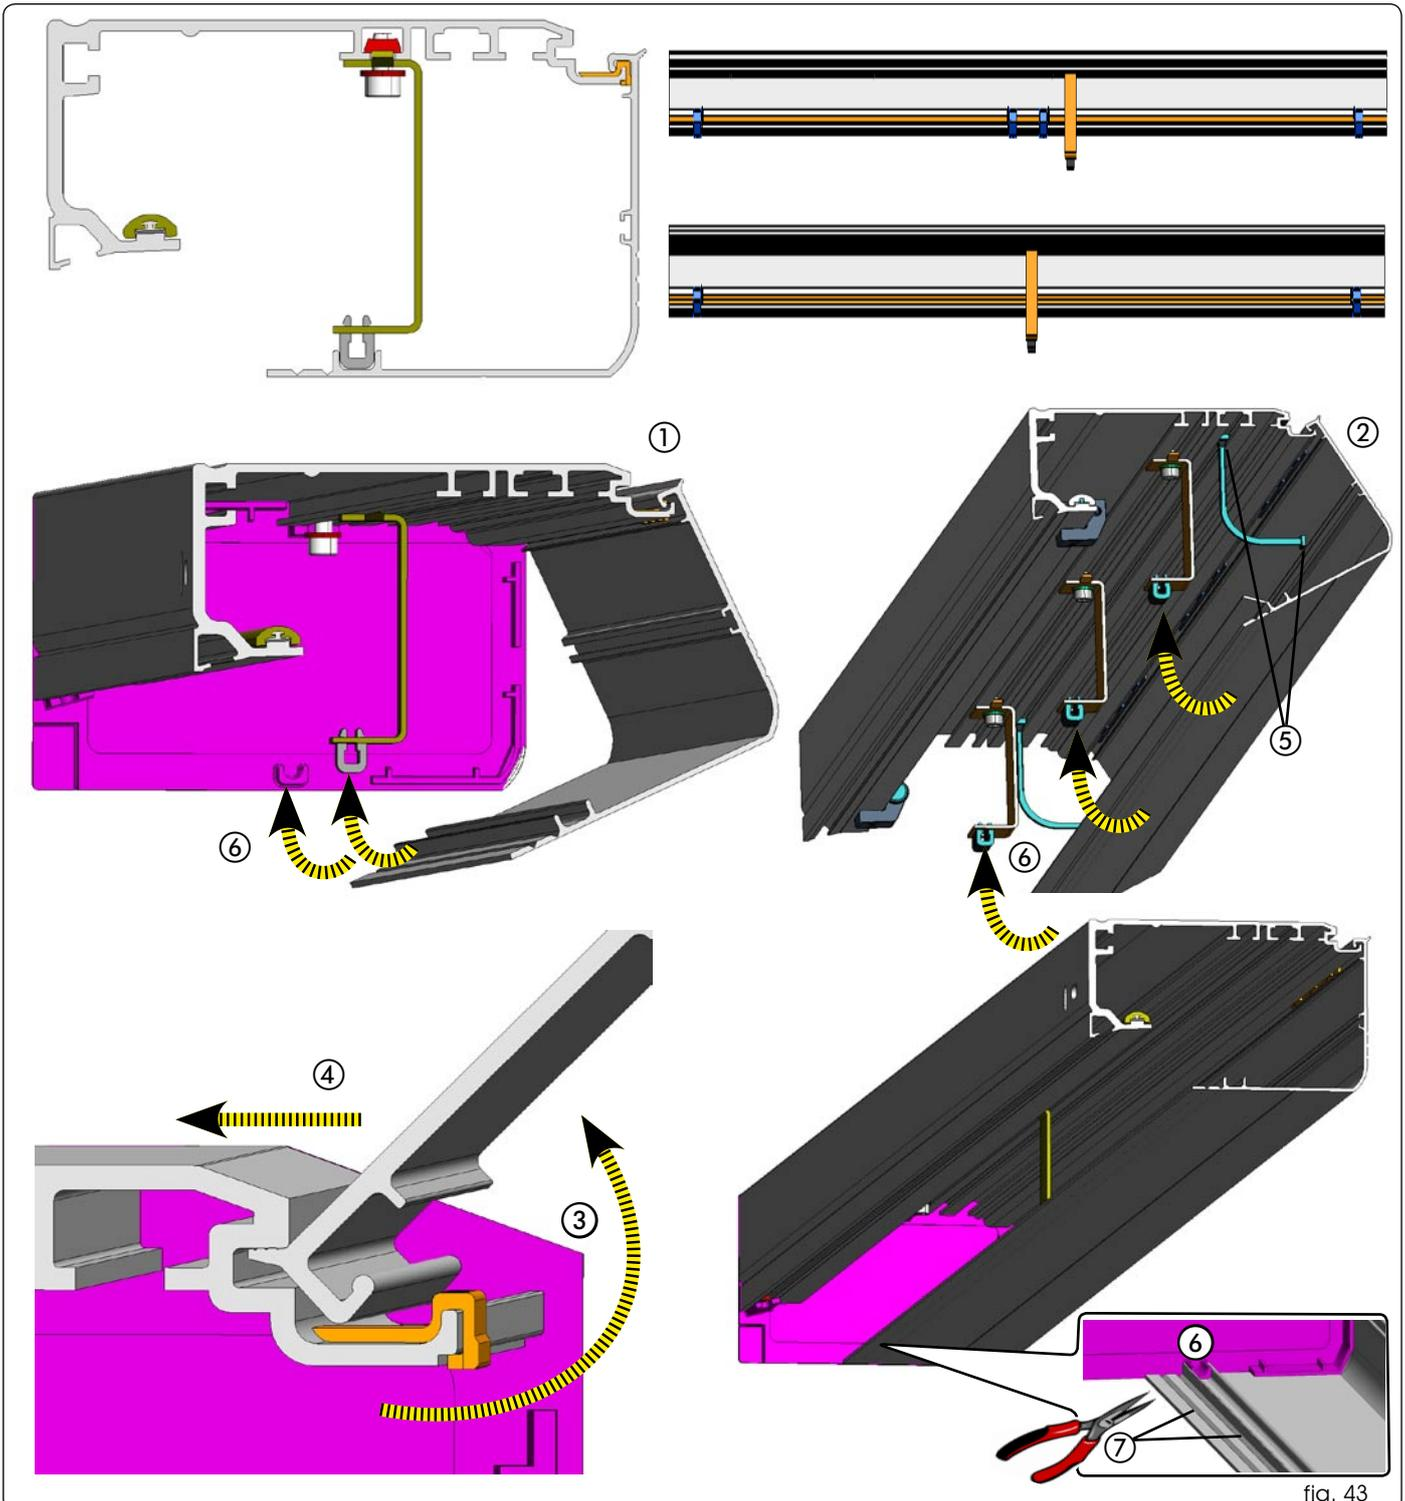

fig. 43
- Lay the closing housing on the spacers you had previously mounted, as shown in Fig. 43 ① or ②.
- To keep the housing open, lift it (Fig. 43 ref. ③) and push it (Fig.43 ref. ④) toward the profile until the metal protrusion fits in the profile seat.
- Secure the parachute cables in the appropriate seats (Fig. 43 ref. ⑤)
- The closing housing is locked in line with the two side panels and the central plate or the fixing brackets (Fig. 43 ref. ⑥)
- The closing housing is pre-marked to adapt it to different leaf thickness values. Eliminate excess profile by cutting at the points indicated in fig. 43 ref. ⑦.